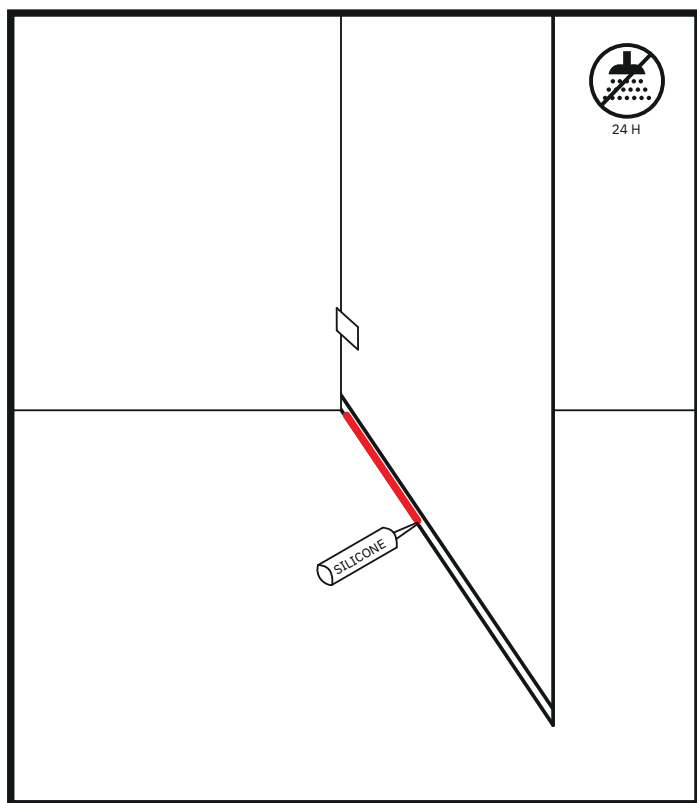
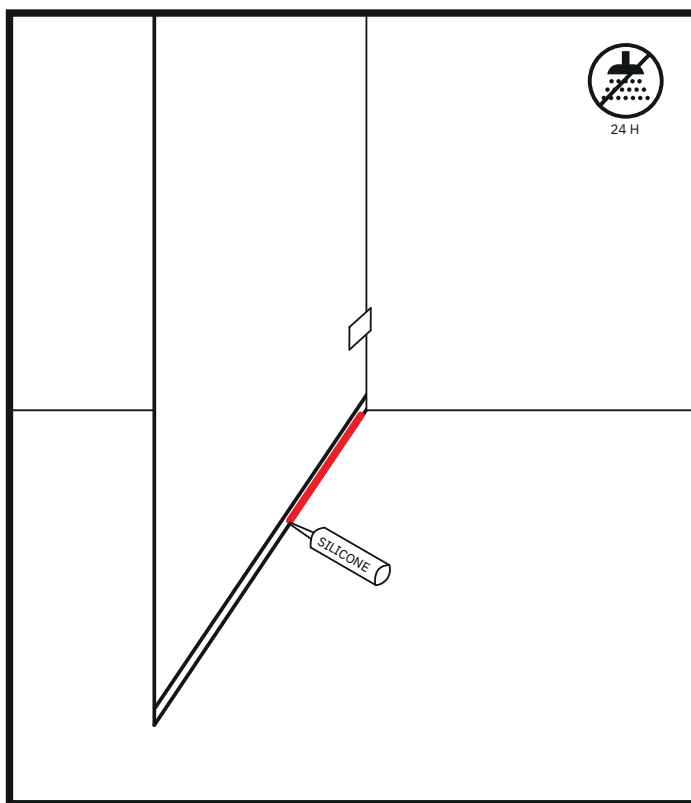

Figure 11
Figure 12
30. Apply an even bead of silicone to the edges of the U-profiles on both the inside (Figure 11) and outside (Figure 12) of the shower enclosure.